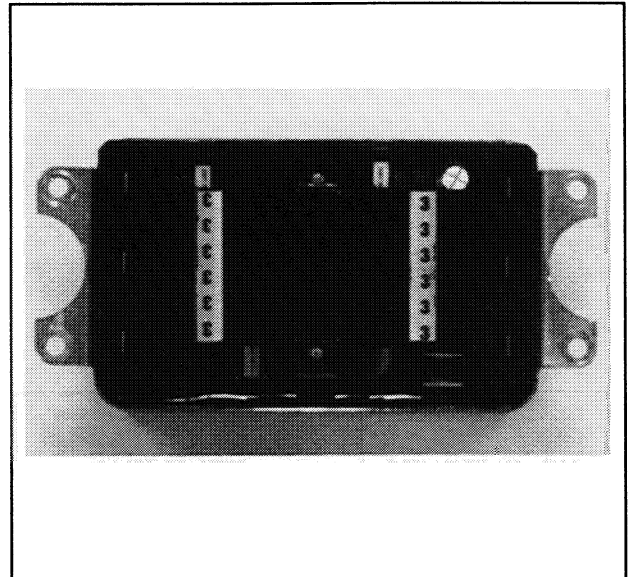

Figure 6-1. PowerBoost III Voltage Regulator
1. Disconnect all leads from voltage regulator. See Figure 6-1.